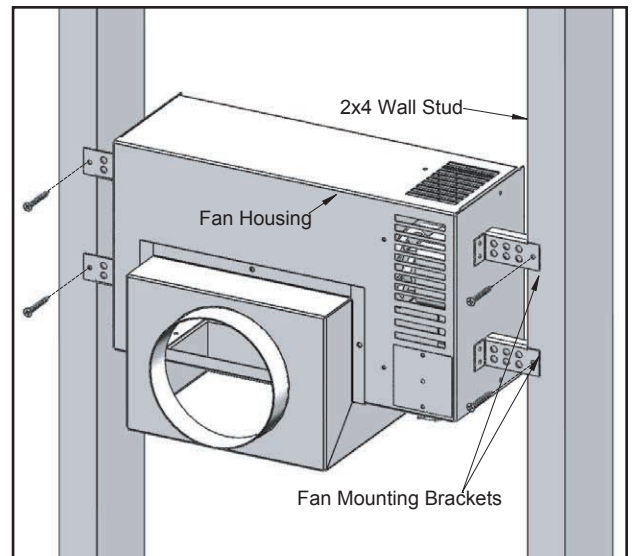

Figure 7: Mounting fan housing.
5. Mount and secure the fan housing assembly to the framing members or to the 2x4 wall studs using the mounting brackets and screws provided in the kit (refer to Figure 7).